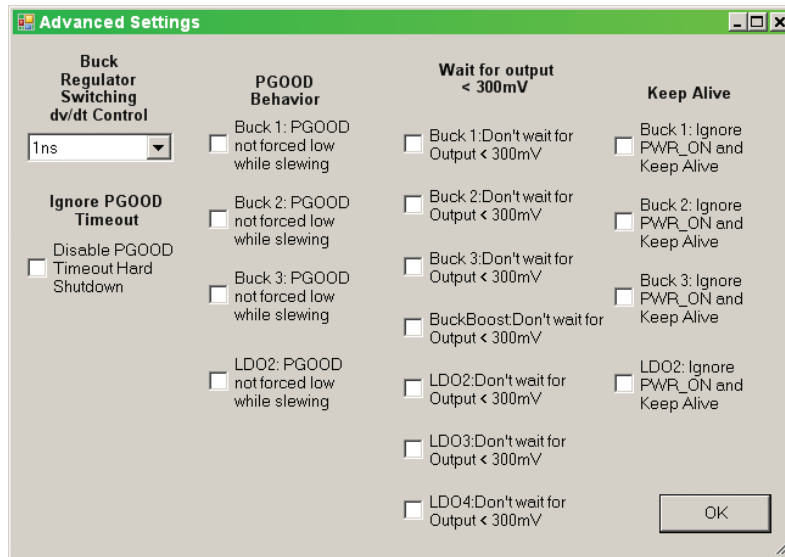

Figure 5. DC1808B-A (LTC3589EIJ-1) Advanced Settings Form
- The Advanced Settings form (Figure 5) is brought up by pressing the Advanced Settings button on the LTC3589 form.
This button brings up the Advanced Settings form (Figure 5), which allows the control of several less used bits. Any changes made in this form will immediately be reflected in the appropriate command registers on the LTC3589 form. However, if Auto Update Enabled is disabled, the value will not be sent to the LTC3589EIJ until auto update is re-enabled or Update All is pressed.